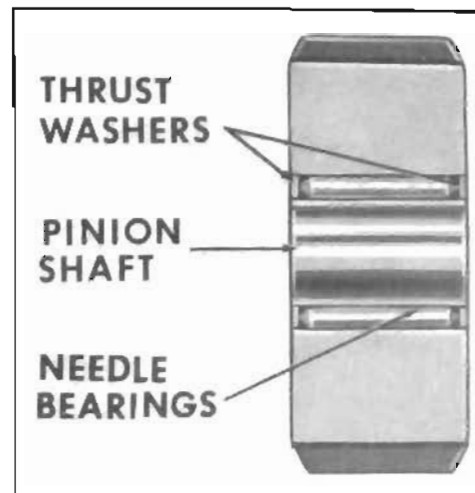

Figure 5-270
10. Install twenty (20) needle bearings, and one thrust washer in the pinion gear. See Figure 5-270. With a twisting motion, lock the needle rollers in place. See Figure 5-271.